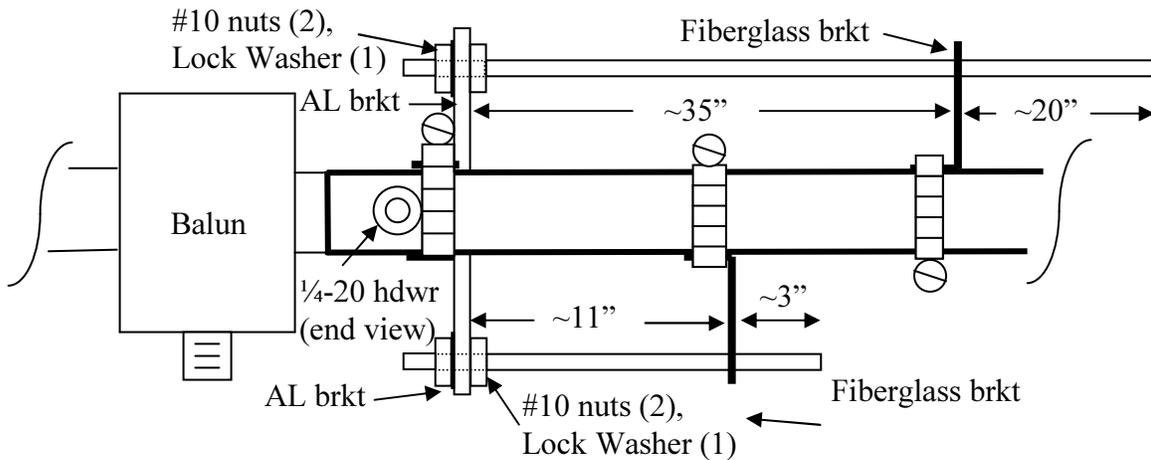

Figure 4: 6 and 2-meter stub assembly and mounting
- Slide four hose clamps over each aluminum tube. Slide two hose clamps (one on each aluminum radiator tube) up against the 1/4-20 hardware and clamp the four aluminum stub channel brackets (two on each radiator) on opposite sides of the aluminum radiator tubes as shown in Figure 4.
9) Using six hose clamps (three on each radiator), clamp the fiberglass insulators so as to support the 16" and 55" threaded rods. Position the insulators as shown in Figure 4.
10) Mount the four stubs (two on each side) by threading a 10-32 x 3/8" nut 1/2" near the end of the threads. Add a second nut and lock-washer to sandwich the bracket between the two nuts, leaving no more than 1/4" of threaded rod exposed beyond the aluminum bracket. See Figure 4.